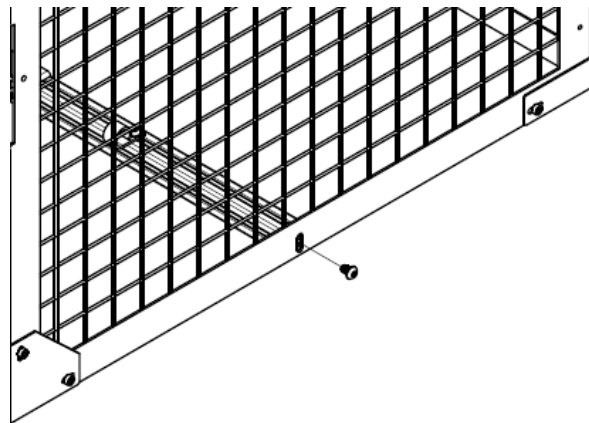

Fig 3.15: Installation of the thrust-stand inside the enclosure
- ❖ You can now screw the 45-degree beam (#CKYX) to the square tube (#WUPP) you installed earlier by moving it along the slot. Tighten the screw on the 45-degree beam into the square tube (#WUPP), see Fig 3.15. The remaining T-nut will not be needed for further assembly.